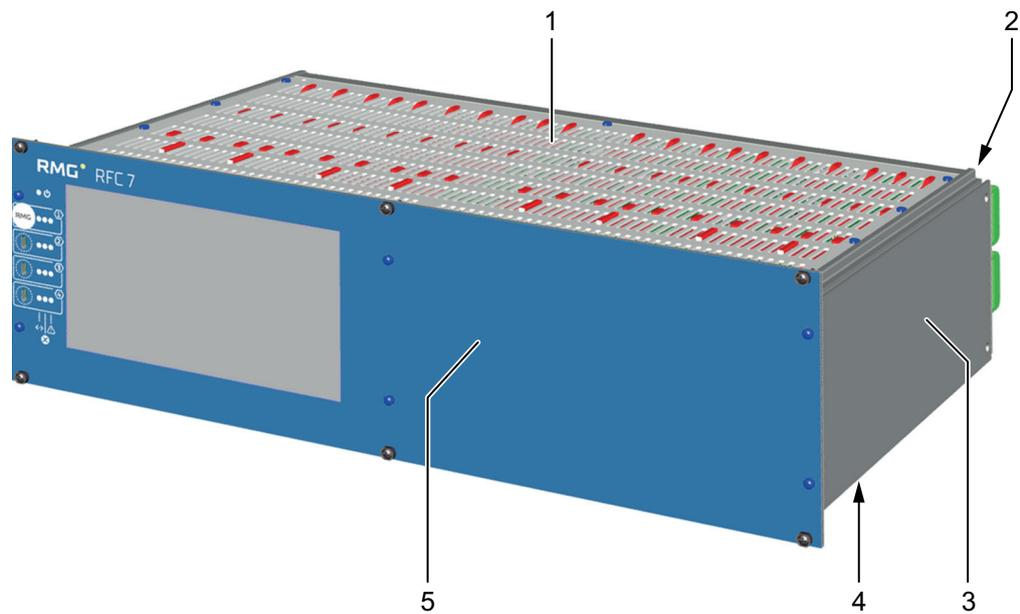

Fig. 8: RFC 7 – 19" housing for 3 to 4 streams
- 19" housing for 3 - 4 streams, cf. fig. 8